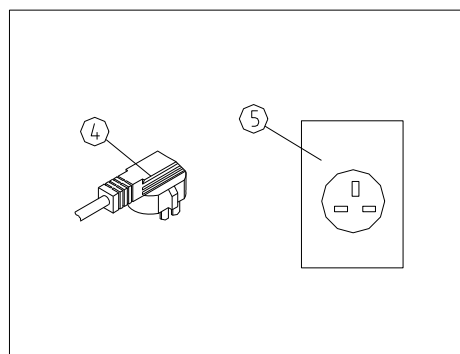

Fig. 10
Connect the other end ④ into a 110v/220v outlet ⑤ (Fig. 10).